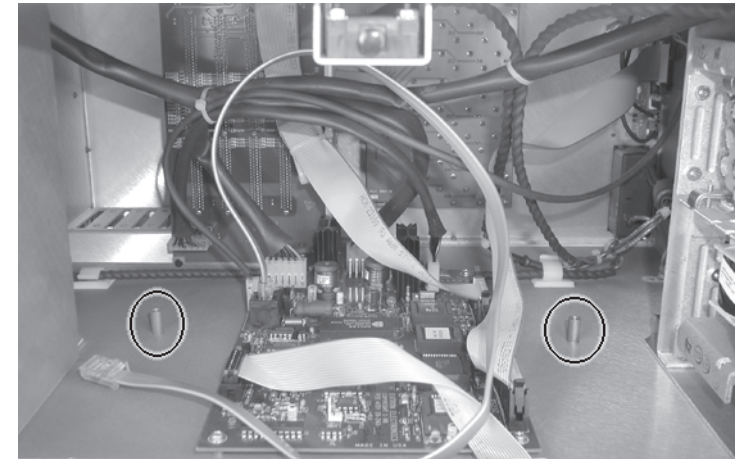
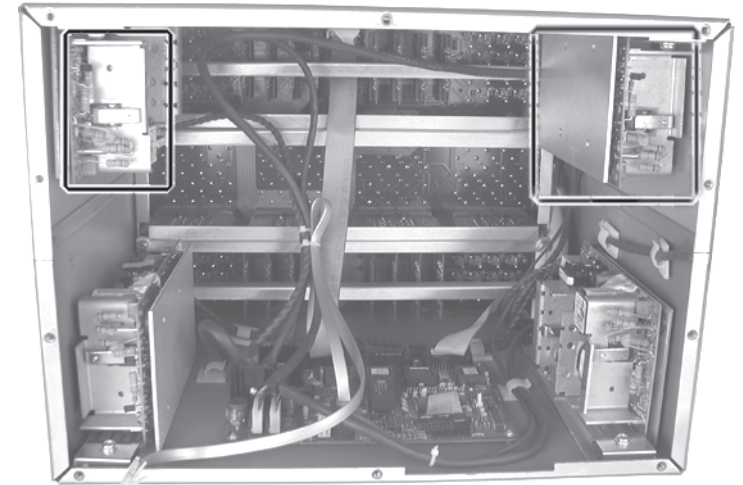

Figure 1 — Redundant power supply locations (circled), 5U cabinet
Figure 2 — Redundant power supply locations (highlighted), 7U cabinet
7. Connect the AC input cable to the power supply (figure 2).
4. Choose one of two possible redundant power supply installation locations inside the BME. Figure 1 shows the tall stand-offs that mark the installation locations on the floor of a 5U BME. Figure 2 shows redundant power supplies installed on the sidewall of a 7U BME.
NOTE Figure 2 shows the complete front panel removed (not just the front panel door) in order to show the power supply locations only. For your installation, you only need to remove the front panel door.